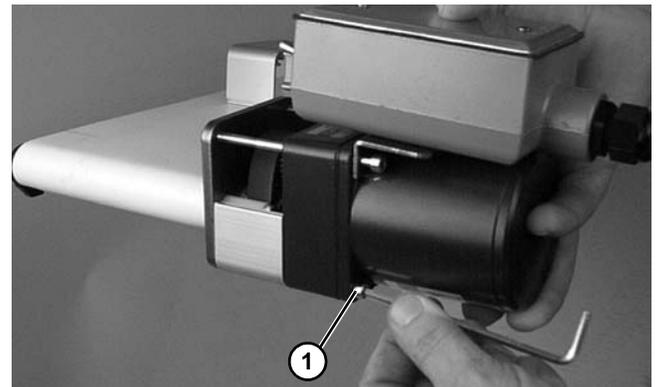

Figure 13
6. Insert gearmotor drive pulley into timing belt. Mount assembly with two (2) bottom screws (**Figure 13, item 1**). Tighten to 45 in-lb (5 Nm).